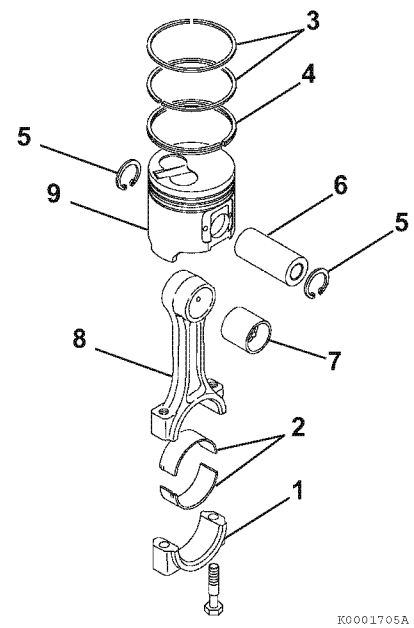

Figure 6-88
5. Lubricate and install the wrist pin (Figure 6-88, (6)) through the piston and connecting rod.
6. Reinstall the second circlip (Figure 6-88, (5)) and ensure it is securely seated in the groove.